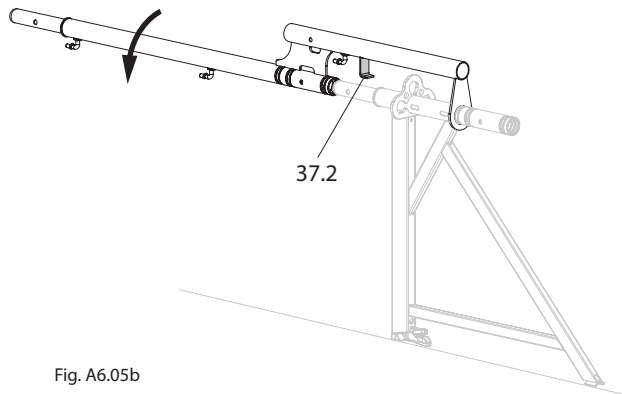

Fig. A6.05b
2. Push the Protection Panel Post EPS upwards on the Console Bracket ECM and push it onto the spigot of the Console Bracket ECM until the hook block (37.2) engages in the ledger-to-ledger coupler of the rosette. (Fig. A6.05b + A6.05c)